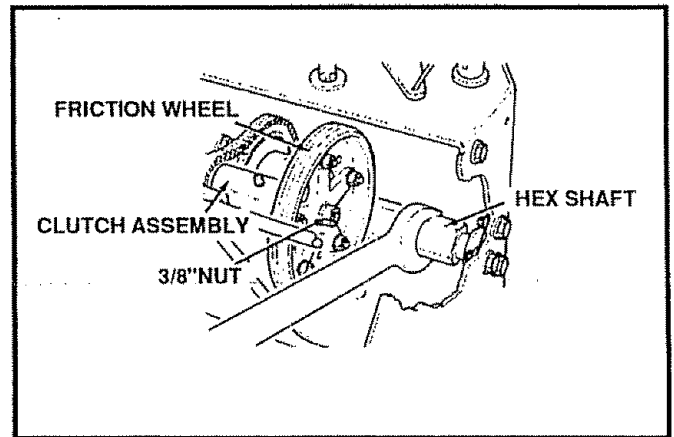

FIG. 36
- Hold the hex shaft with an 11/16 inch wrench (or an adjustable wrench) Place the wrench on the extreme right hand side of the hex shaft (See Fig. 36).